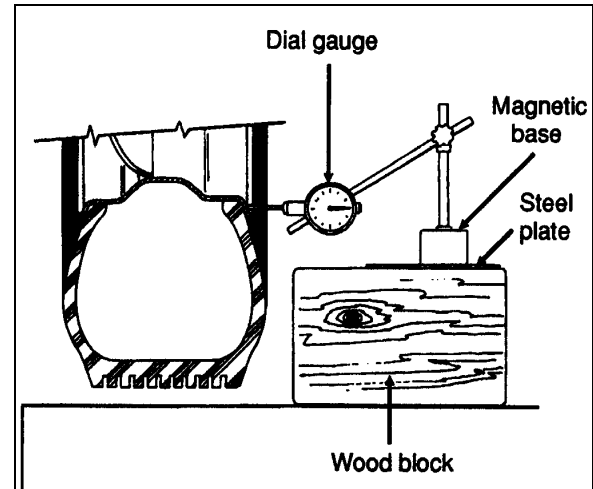

FIGURE 3: DIAL GAUGE INSTALLATION
2. Check wheel lateral run-out. Install a dial gauge as shown in Figure 3, then rotate the wheel by hand one full turn. As the wheel turns, note any variation on the dial gauge;